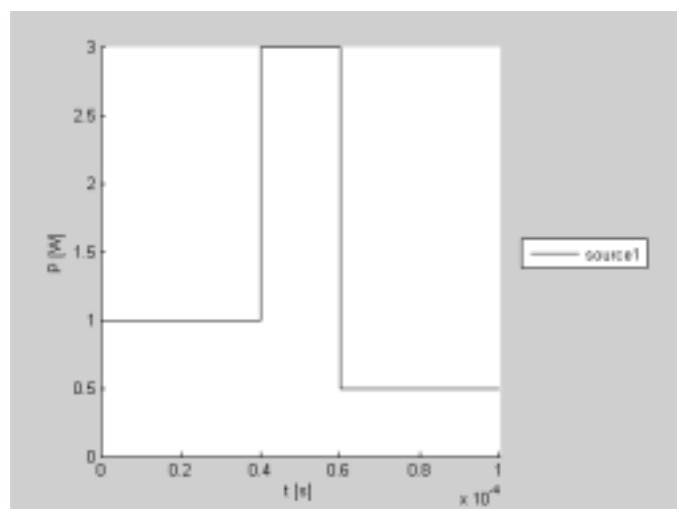

Figure 3: Piecewise linear waveform: example 1.
- **Example 1** (see Figure 3):